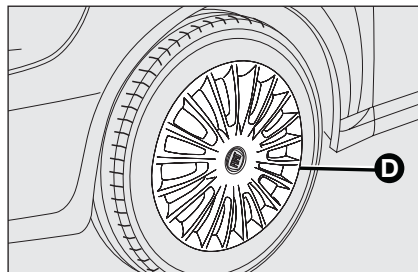

fig. 6
- For vehicles with steel rims, remove the pressure inserted wheel hub cap **D-fig. 6**;